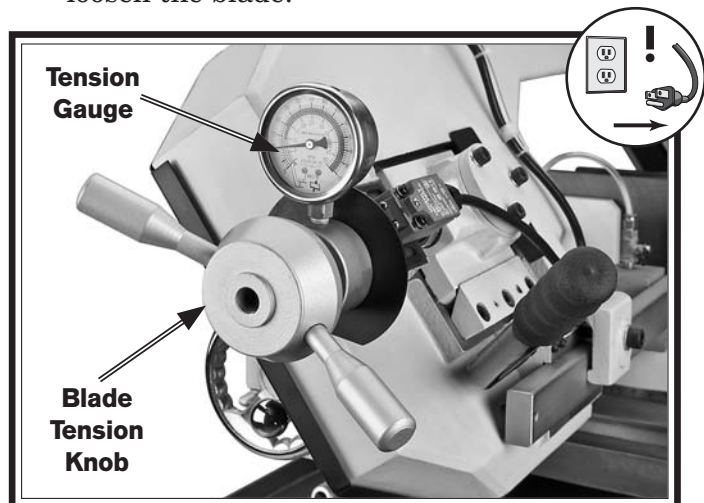

Figure 23. Adjusting blade tension.
4. Turn the tension knob in **Figure 23** clockwise to tighten the blade or clockwise to loosen the blade.